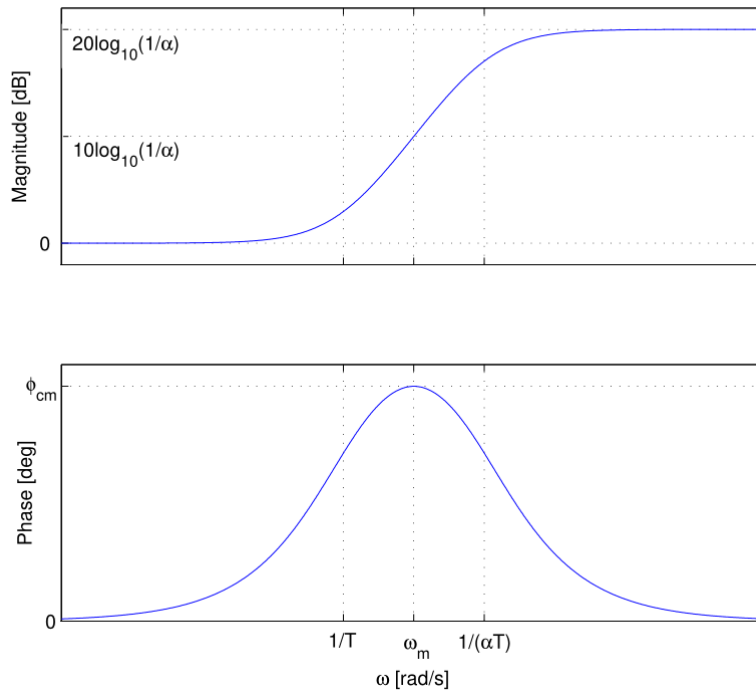

Figure 1-Bode diagram of lead compensator
with  $0 < \alpha < 1$ . You can plot the Bode diagram (shown in Figure 1) to see how it contributes to the gain of the system.
**Question 3: Sketch Bode plots for both  $G(s)$  and the combination  $C(s)G(s)$ .** You do not have to plug in values for any variables, simply label your axes with expressions of variables as done in Figure 1.